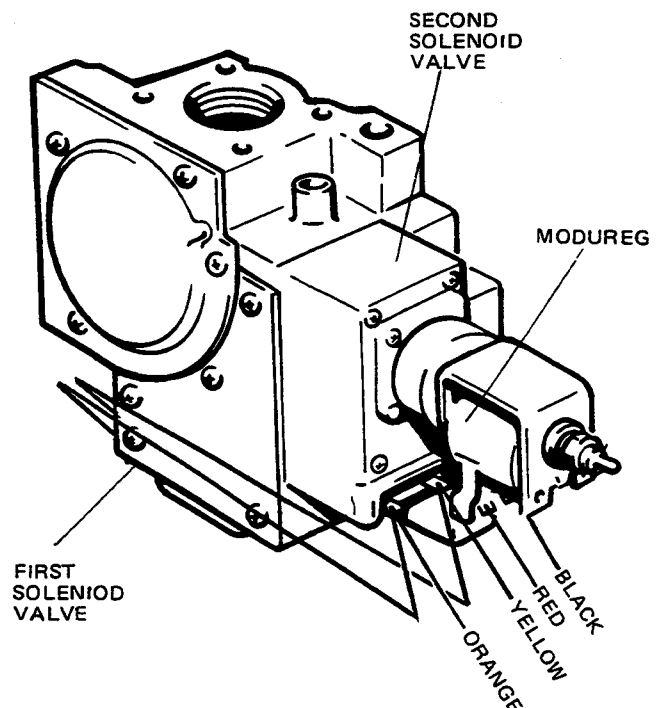

FIG. 36a GAS VALVE
- i) Reassemble in reverse order. Before fitting the valve into position, connect the two spade connectors (yellow and orange wire) to the first solenoid, polarity is not important (see Fig. 36A). Recommission appliance as in commissioning procedure.
20. MODUREG COIL (see Fig. 36A)
21. SECOND SOLENOID VALVE (see Fig. 36A)